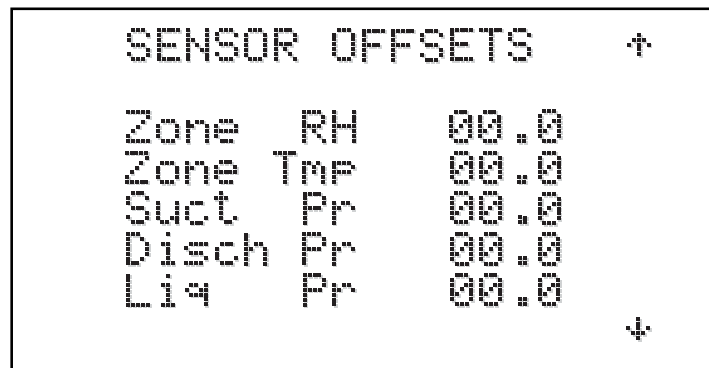

Figure 58
4.3.4.4 Sensor Offsets (Figures 58 - 59)